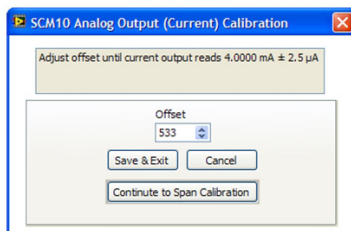

Figure 6.8
2. Click on the “Analog Output Current” button of the GUI Calibration window. This opens up an instruction window. Click “OK” to continue to the next screen, which is similar to Figure 6.8.